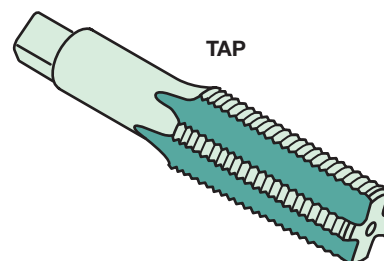

FIGURE 3-8 A typical bottoming tap used to create threads in holes that are not open, but stop in a casting, such as an engine block.
- **Bottoming tap.** This tap has a flat bottom instead of a tapered tip to allow it to cut threads to the bottom of a drilled hole. ● SEE FIGURE 3-8.